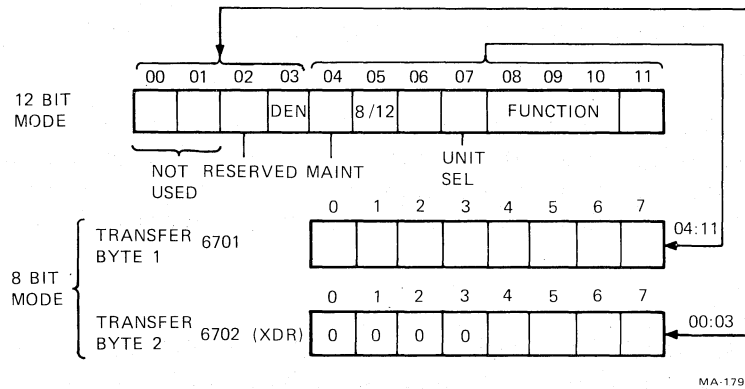

Figure 4-2 Command Word Format (RX28)
4.1.2.2 RX28 Load Command - (First byte 67x1, second byte - 67x2) - This command transfers the contents of the AC to the interface register and clears the AC. The RX02 begins to execute the function specified in AC 8, 9, and 10 on the drive specified by AC 7. A new function cannot be initiated unless the RX02 has completed the previous function. The command word is defined as shown in Figure 4-2 and is described in greater detail in Paragraph 4.1.3.1.
When operating in the 8-bit mode, the Load command is stored in two 8-bit transfers. The first 8 bits of the command word (shown as bits 4-11 in Figure 4-2) are stored; then TR is asserted and an XDR is performed to transfer the remaining bits of data (bit 3, DEN, and bit 2, as shown in Figure 4-2) right-justified. The extra bits in the second 8-bit transfer are filled with zeros. Upon completing the transfer of the second 8-bit byte, Done is asserted to end the function.